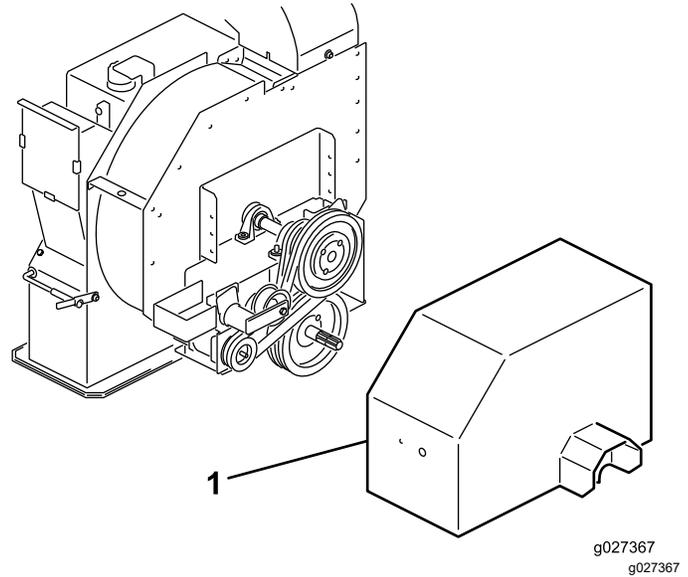

Figure 14
1. Loosen the bolts and nuts securing the drive shield to the impeller housing (Figure 14) and remove the shield.
2. On back side of the frame, loosen the bolt securing the belt tensioner to the frame (Figure 14).